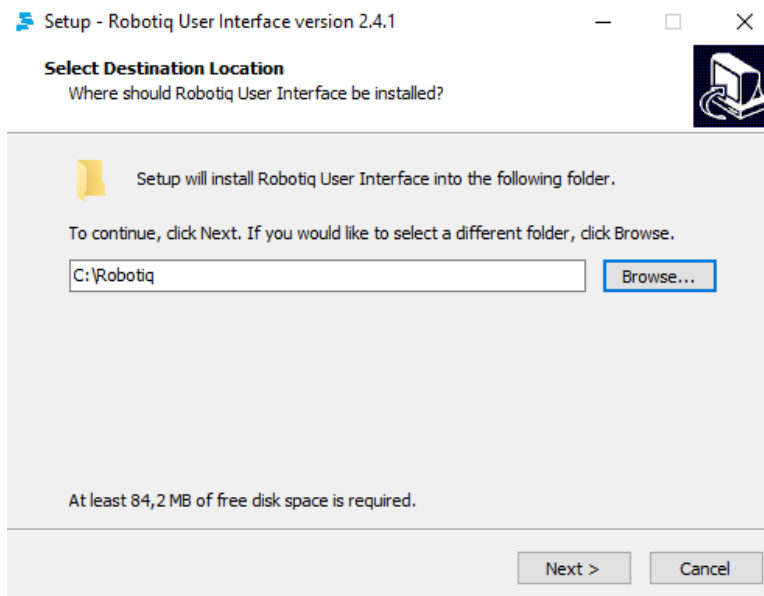

Fig. 3-1: Robotiq User Interface Install.
3. Follow the setup steps until you can click "Install". See Fig. 3-1: .